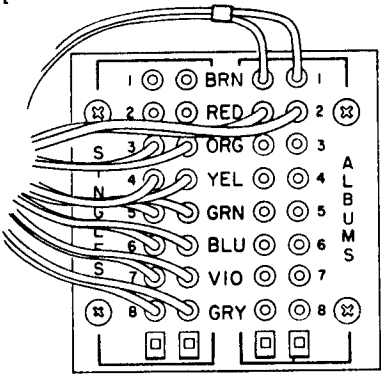

Figure 12. Pricing Terminal Board.
In order to change the album grouping or to provide additional groups of albums, shift the two (2) leads which correspond to the particular group to be changed, from the "Singles" terminals to the "Albums" terminals, or vice versa to change from "Albums" to "Singles" grouping as shown in Figure 12. It is recommended that "Albums" grouping changes be made in numerical order. Number Strip Cards in the program holder should be changed at the time when "Album" grouping is changed. The cards are available from your Seeburg Distributor and are listed below.